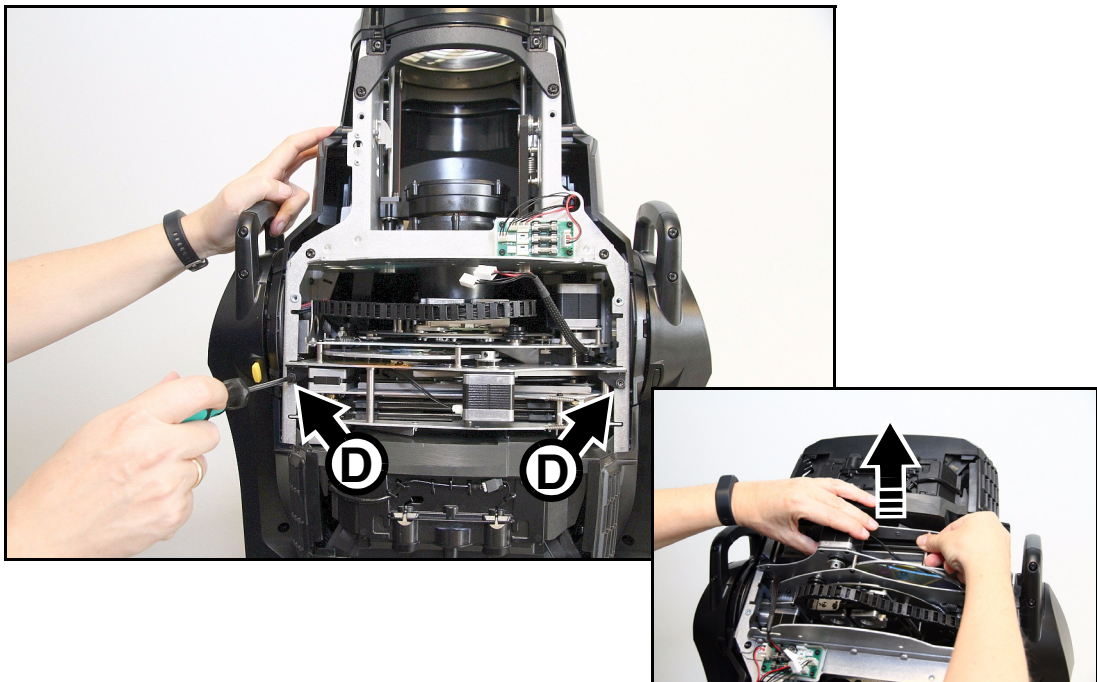
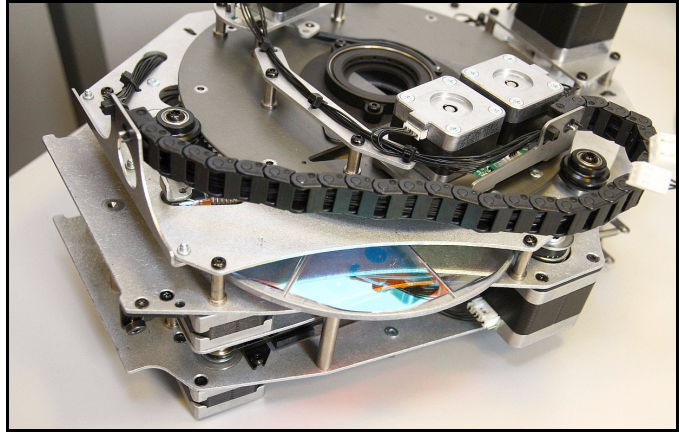

Figure 11: Removing the multi-module
Figure 12: Multi-module on work surface
3. See Figure 11. Loosen the two Torx 20 screws **D** (arrowed) to release the multi-module. Position the head so that the front lens is pointing downwards, then lift the module out of the head and place it on a work surface as shown in Figure 12.